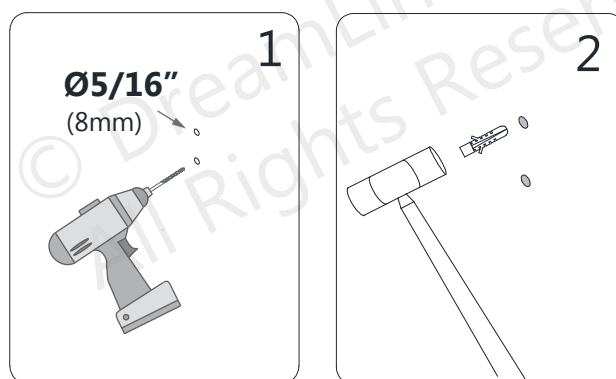

Fig 15
15. Using the marks from the previous step, drill the holes using a **Ø5/16"** drill bit and insert the **Wall Anchors (#18)**. (**Fig 15**)